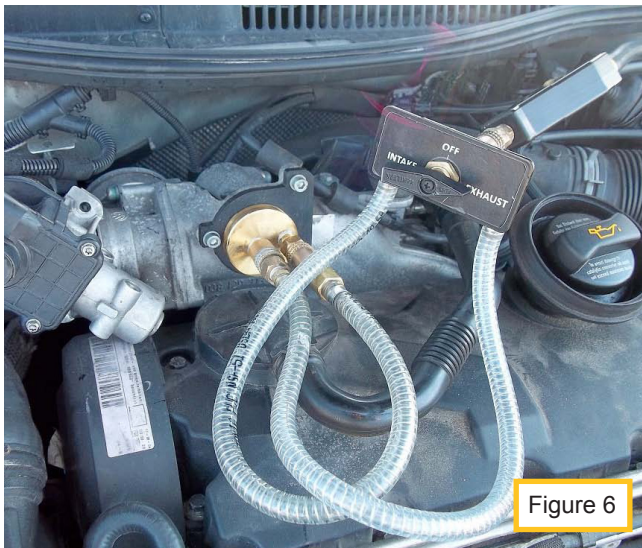
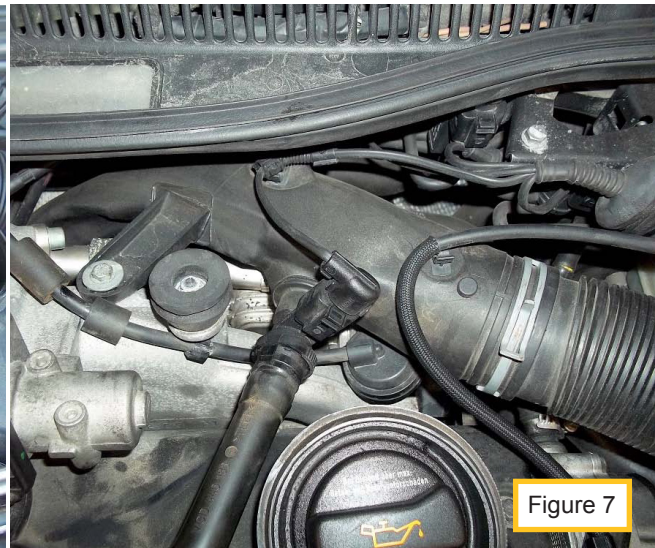

Figure 6
Figure 7
**NOTE: If engine is hot, the EGR system must be cooled before treatment can start. Before step 9 can proceed, ignition must be off for the EGR system to be cooled. Connect the hand vacuum pump tool to the EGR cooler bypass vacuum actuator (see figure 7), draw a vacuum as this will close the EGR cooler bypass valve thus allowing cooling of the EGR cooler. Open EGR tool air valve, keeping the fluid valve closed, turn valve on the EGR manifold adaptor 069-3399 to exhaust and flush cooler with air for 2 minutes.**
9. Start vehicle engine. Set EGR manifold to exhaust (see figure 6). Disconnect EGR cooler bypass valve vacuum actuator hose (see figure 7) and attach a hand vacuum pump tool and draw a vacuum, this will close the EGR cooler bypass valve and allow cleaning of the EGR cooler.
13. Close the fluid valve and turn manifold valve to exhaust (see figure 6) and let the air flow for an additional 2 minutes to flush deposits into exhaust stream.
14. Open fluid valve and continue service until another  $\frac{1}{4}$  of the fluid is consumed. During this step cycle the EGR cooler bypass valve (see figure 7) several times by releasing the vacuum on your hand vacuum pump tool and drawing a vacuum (see figure 7) several times through out this step. This will allow cleaning of the EGR cooler bypass port.